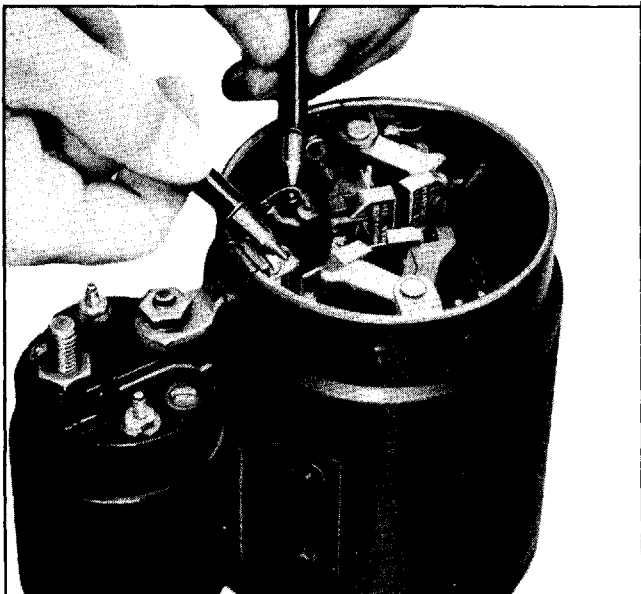

Fig. 12-33 Testing Shunt Coil for Open Circuit
e. Using a 110-volt test lamp, place one lead on each end of the shunt coil (Fig. 12-33). Disconnect the shunt coil ground before this check is made. If the lamp does not light, the shunt coil is open and will require replacement.